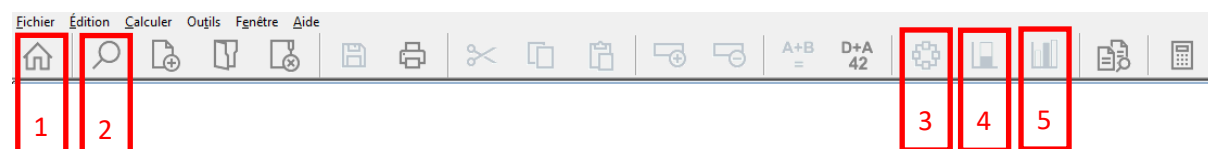

Figure 4 - toolbar
- Compare different life cycles or assemblies. To do this, select them while holding down the ctrl key and click on the "Calculate \ compare" menu (or on the 4 button, Figure 4)